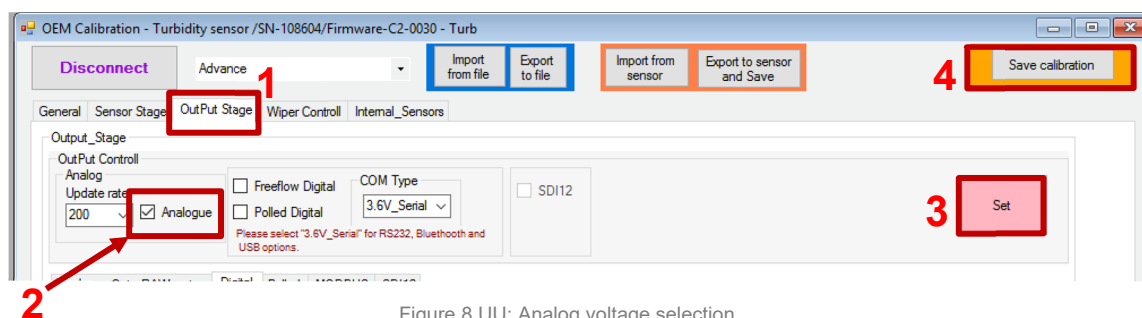

Figure 8.UU: Analog voltage selection
- Select “OutPut Stage” option (Figure 8.UU: Analog voltage selection#1).